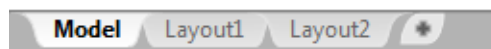

Figure Step 6
Step 6 Check to ensure that the tab Model is enabled. If it is not enabled, click it with the left mouse button. (Figure Step 6)